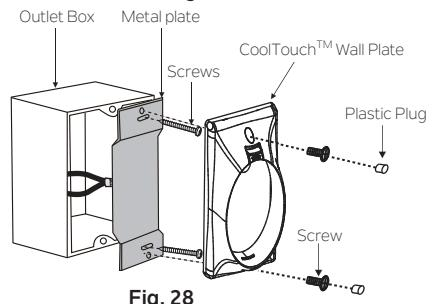

Fig. 28
Step 2. Install the metal plate and the CoolTouch™ wall plate to the existing wall outlet box with 2 screws provided. Insert the two plastic plugs into the wall plate. (**Fig.28**)